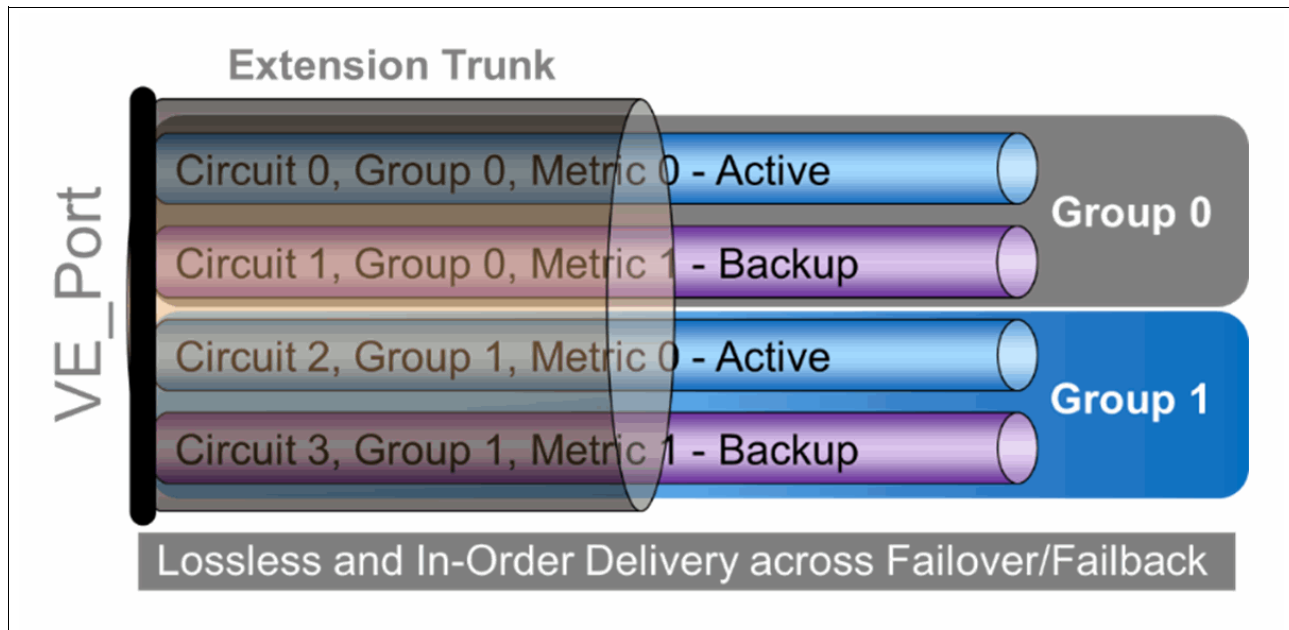

Figure 5-2 Circuit failover metrics and groups
All circuits have a metric of 0 or 1 and belong to a failover group, as shown in Figure 5-2 on page 51. Metric-0 is the default and is preferred over metric-1. Metric-0 circuits are used until all metric-0 circuits within the failover group go offline, after which the metric-1 circuits become active. Metric-0 and metric-1 circuits belong to the same VE (the same extension trunk), which means that during failover and failback, no data in flight is lost or sent out of order to the upper-layer protocol.
- ▶ Use metric 1 backup circuits when licensing does not permit the aggregate maximum that is needed to retain bandwidth after a production circuit goes offline. For example, Extension Platforms calculate aggregate bandwidth based on active circuits, and only metric 0 or 1 can be active at any time. It is common to use a failover group for each circuit; therefore, each circuit has a backup circuit (Figure 5-2 on page 51).